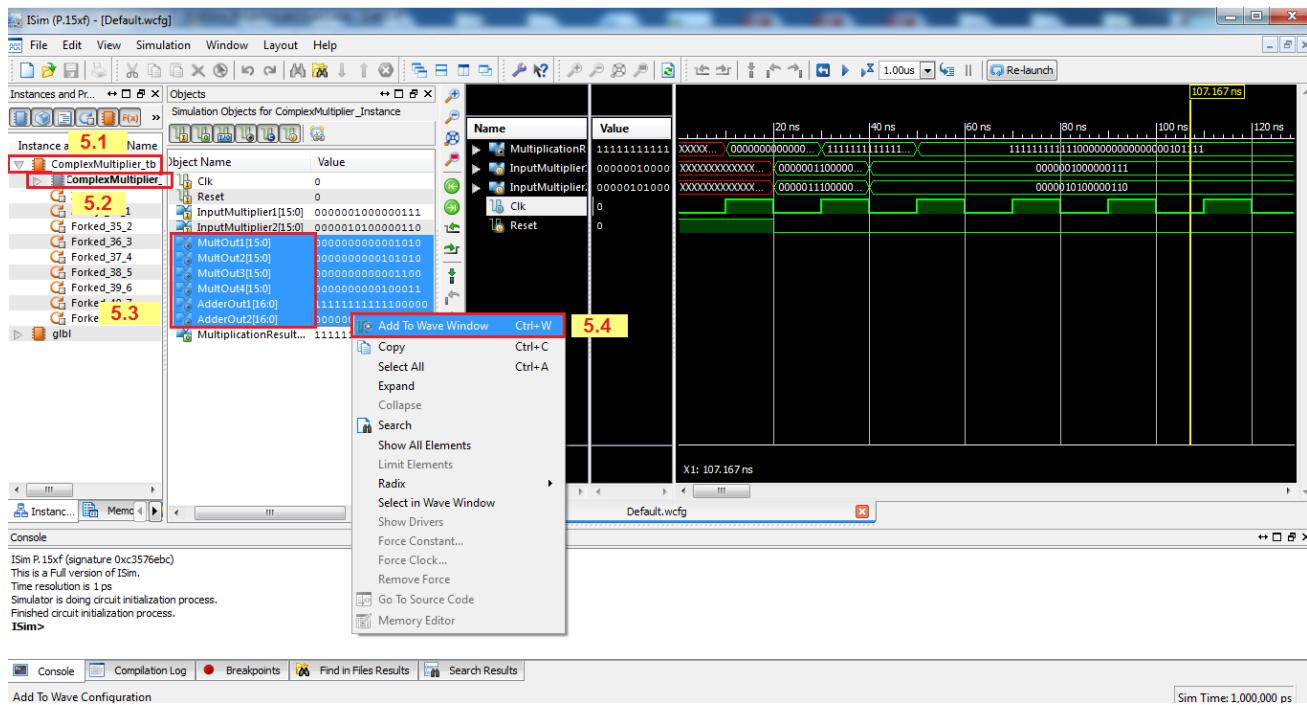

Figure 21.
5. Adding Signals to Wave Window (Figure 21)